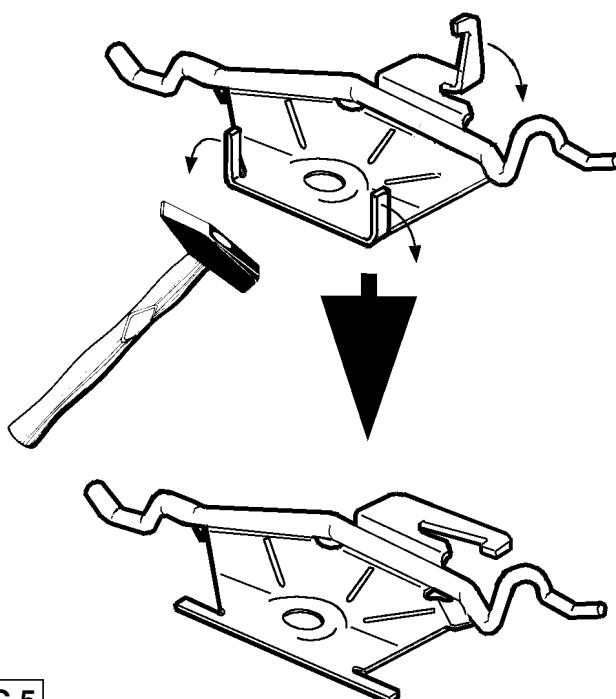

FIG.5
- * **Voor alle typen vanaf 1999 geldt:** Buig de opstaande lippen van de uitlaatbevestiging overeenkomstig fig.5 recht.
- * For models up to 1999: Remove the bumper as shown in Figure 2. Release the bumper fixing brackets at the right and left of the bumper. Bend the protruding exhaust fitting lips cut a section out of the bumper. With this vehicle model, it is not necessary to plate will not be replaced. With this vehicle model, it is not necessary to spring washers and nuts, as shown in Figure 3. This plate will be repalced. This plate is shown in Figure 4. Position the chassis at left and right, especially. Backplate M is and M into the chassis at left and right, as shown in the sketch. Slide backplates L and M onto the chassis at left and right, respectively. Backplate M is shown in Figure 5. Position the towbar and fix at points B with two M12 x 50 bolts with plain and spring washers.
- * For all Post-1999 models: Bend the protruding exhaust fitting lips straight, as shown in Figure 5.
- * Für alle Typen ab 1999 gilt: Die aufgerichteten Lippen der Auspuffhalterung gemäß Abb. 5 gerade biegen.
- * Pour tous les types à partir de 1999 : Redresser les languettes verticales de la fixation d'échappement conformément à la fig. 5